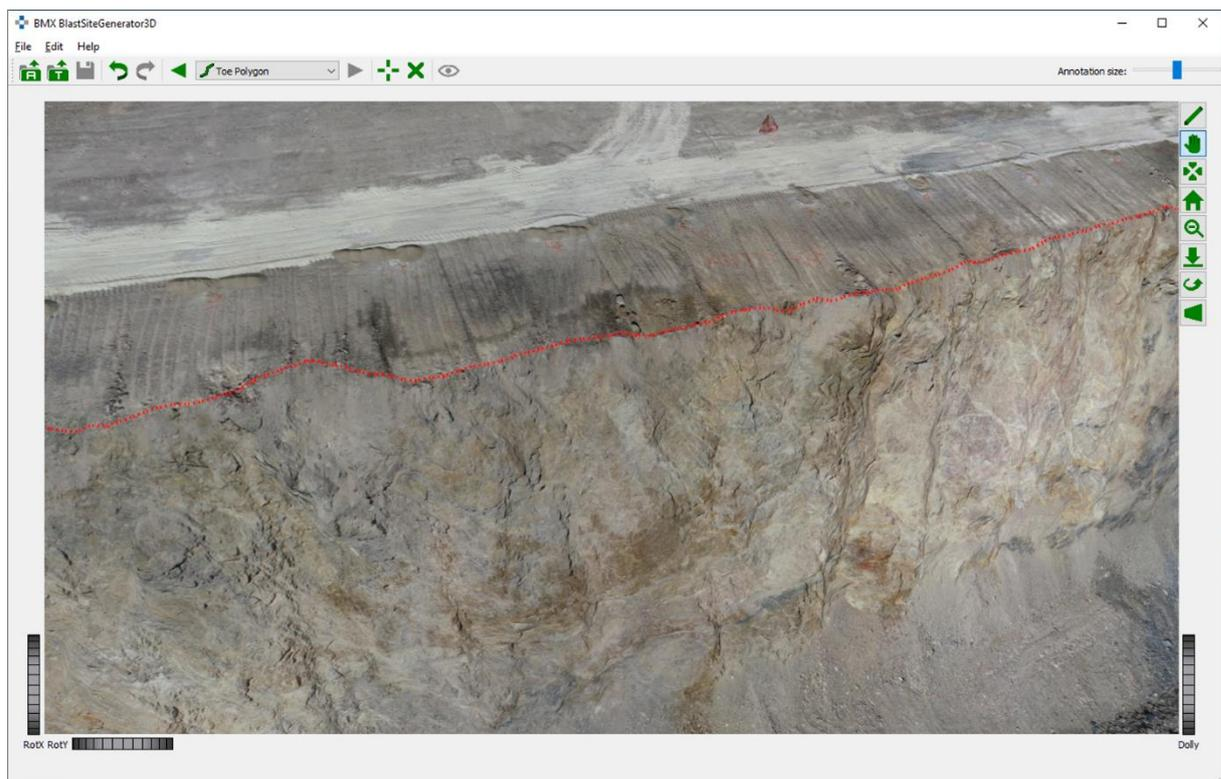

Figure 4: Setting the Crest Polygon
5. Select "*Crest Polygon*" from the pull-down menu "*Choose Marker*" in the toolbar. Set the *Crest Polygon* by clicking the mouse along the *Top Level Surface* (Figure 4).